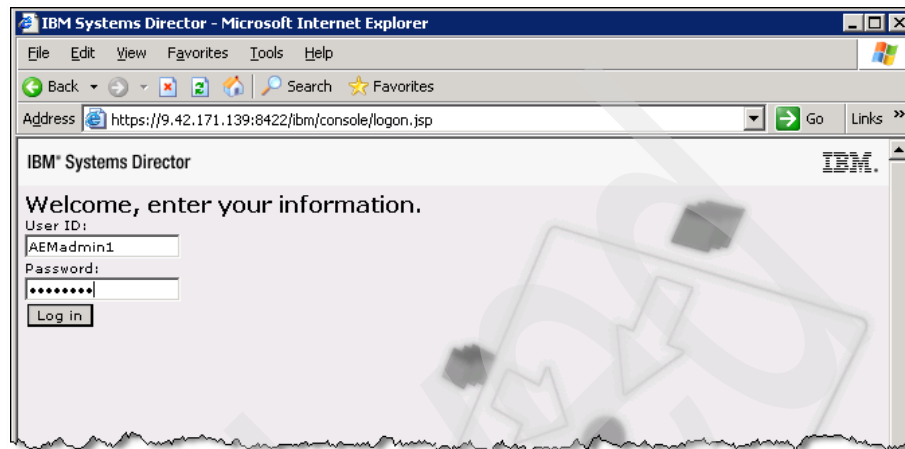

Figure 4-1 Web console login window
2. Enter the user ID and password that corresponds to an authorized IBM Systems Director administrator user ID and password, and click **Log in** (Figure 4-1).